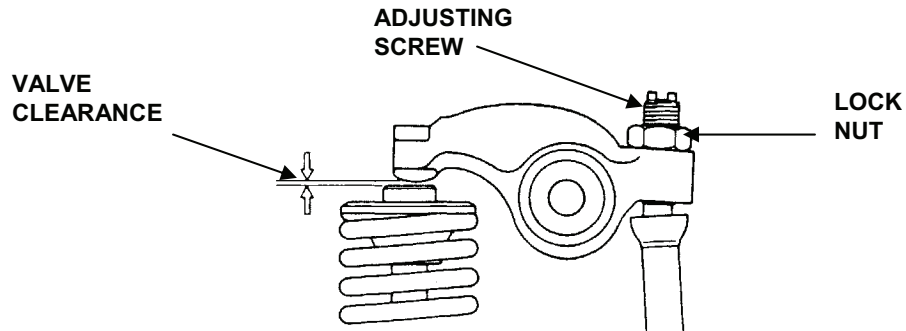

Figure 4. Valve Clearance Adjustment.
3. Loosen the lock nut. Rotate the adjusting screw in either direction to achieve proper clearance. See Figure 4.